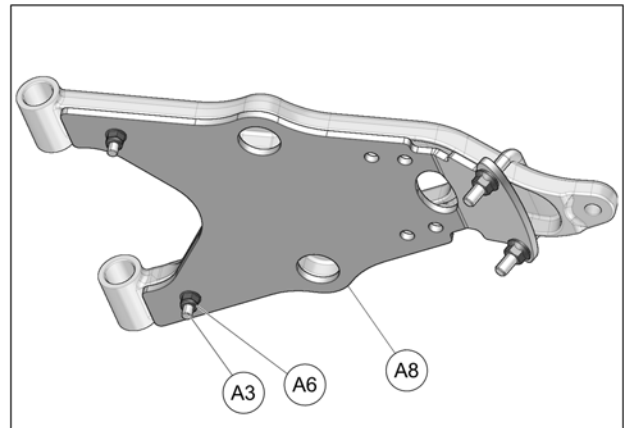

Fig. 16
5. Position the reinforcement plate (A8) under the lower suspension arm. Secure the wide end of the plate near the chassis with two M8x45mm mounting bolts (A3) and nuts (A6). See Fig. 16